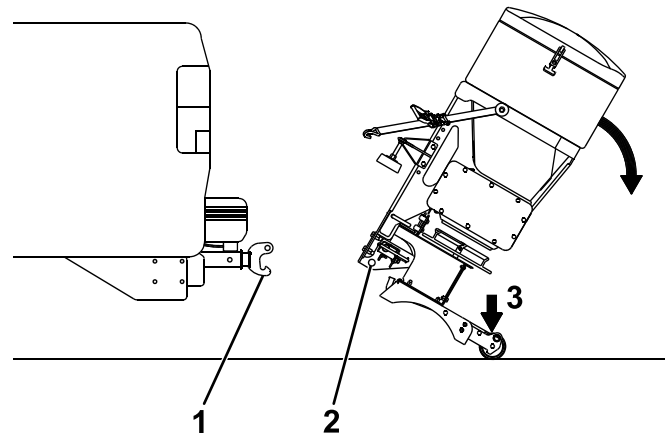

Figure 21
6. Tilt the spreader down to release the top pin of the RT3 attachment (Figure 21).
7. Grip the spreader firmly and step on the leg assembly to rotate it back until the bottom pin of the RT3 attachment clears the hook on the RT3 hitch (Figure 21).